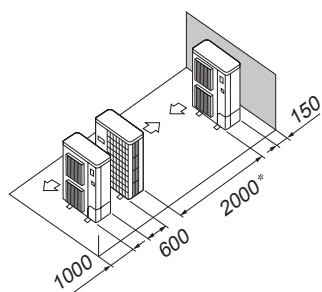

Fig. 4-16
- Single parallel unit arrangement (Fig. 4-16)